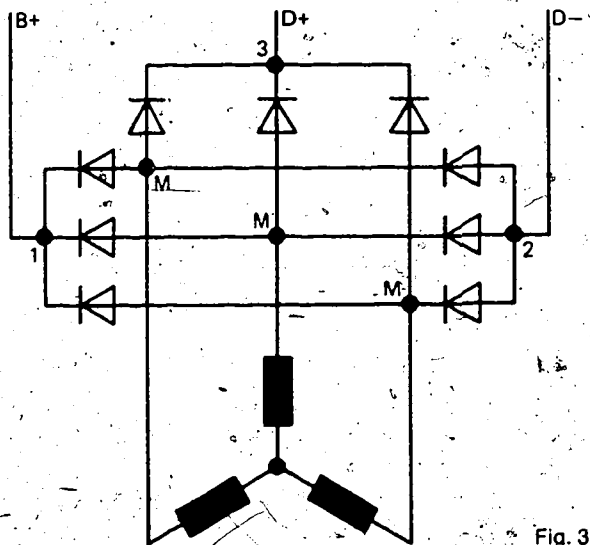

Fig. 3
5.2. Test points (M)
- Excitation diodes — M and 3 as shown by Fig. 3.